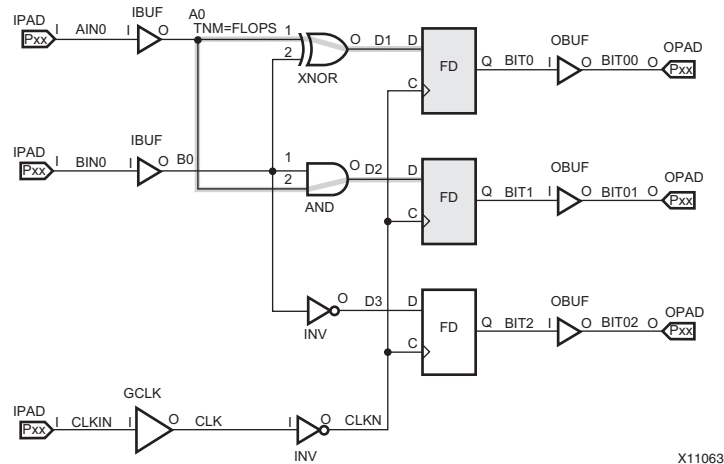

Figure 3-3: Timing Name on the A0 Net Traced Through Combinatorial Logic to Synchronous Elements (Flip-Flops)
- Figure 3-3, Timing Name on the A0 Net Traced Through Combinatorial Logic to Synchronous Elements \(Flip-Flops\)